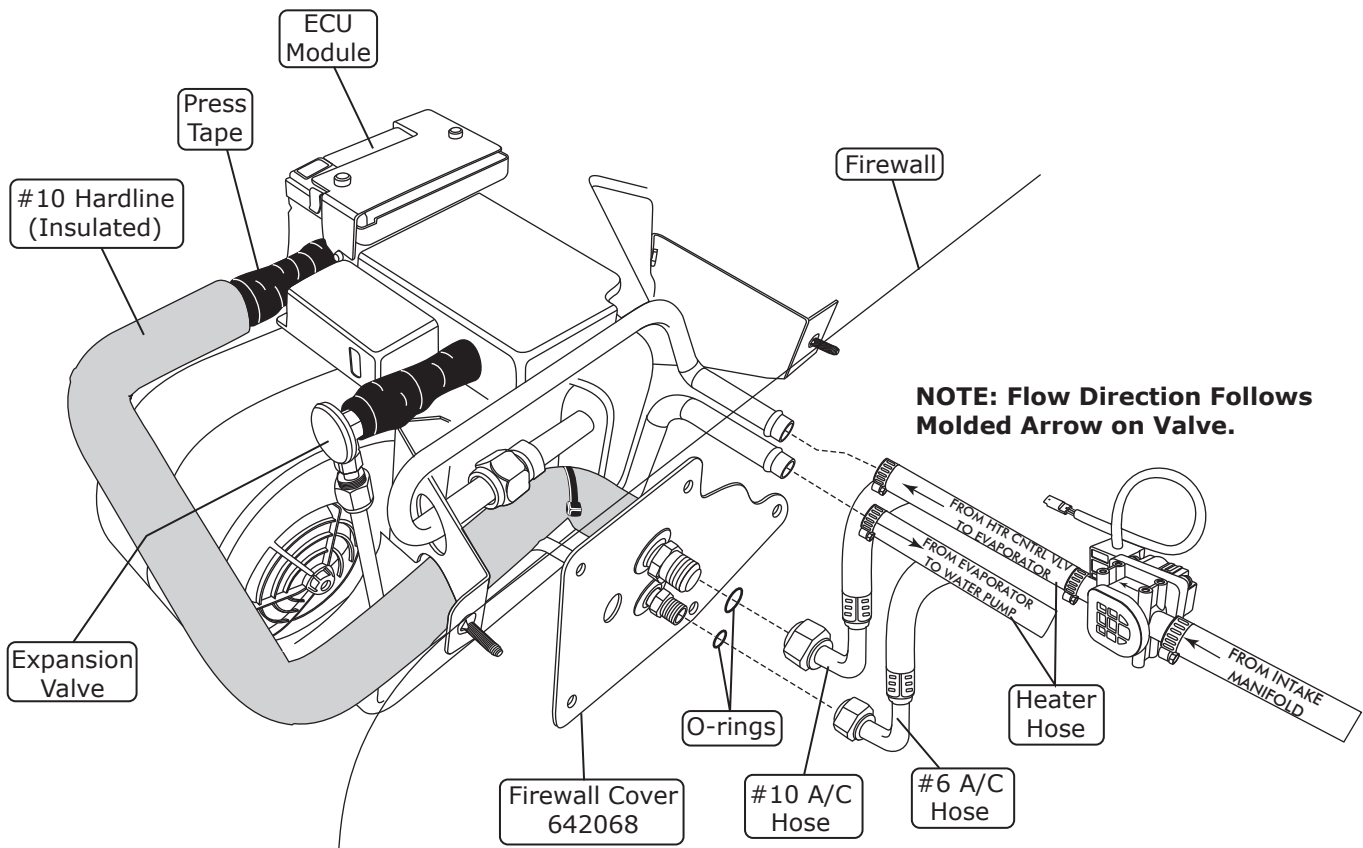
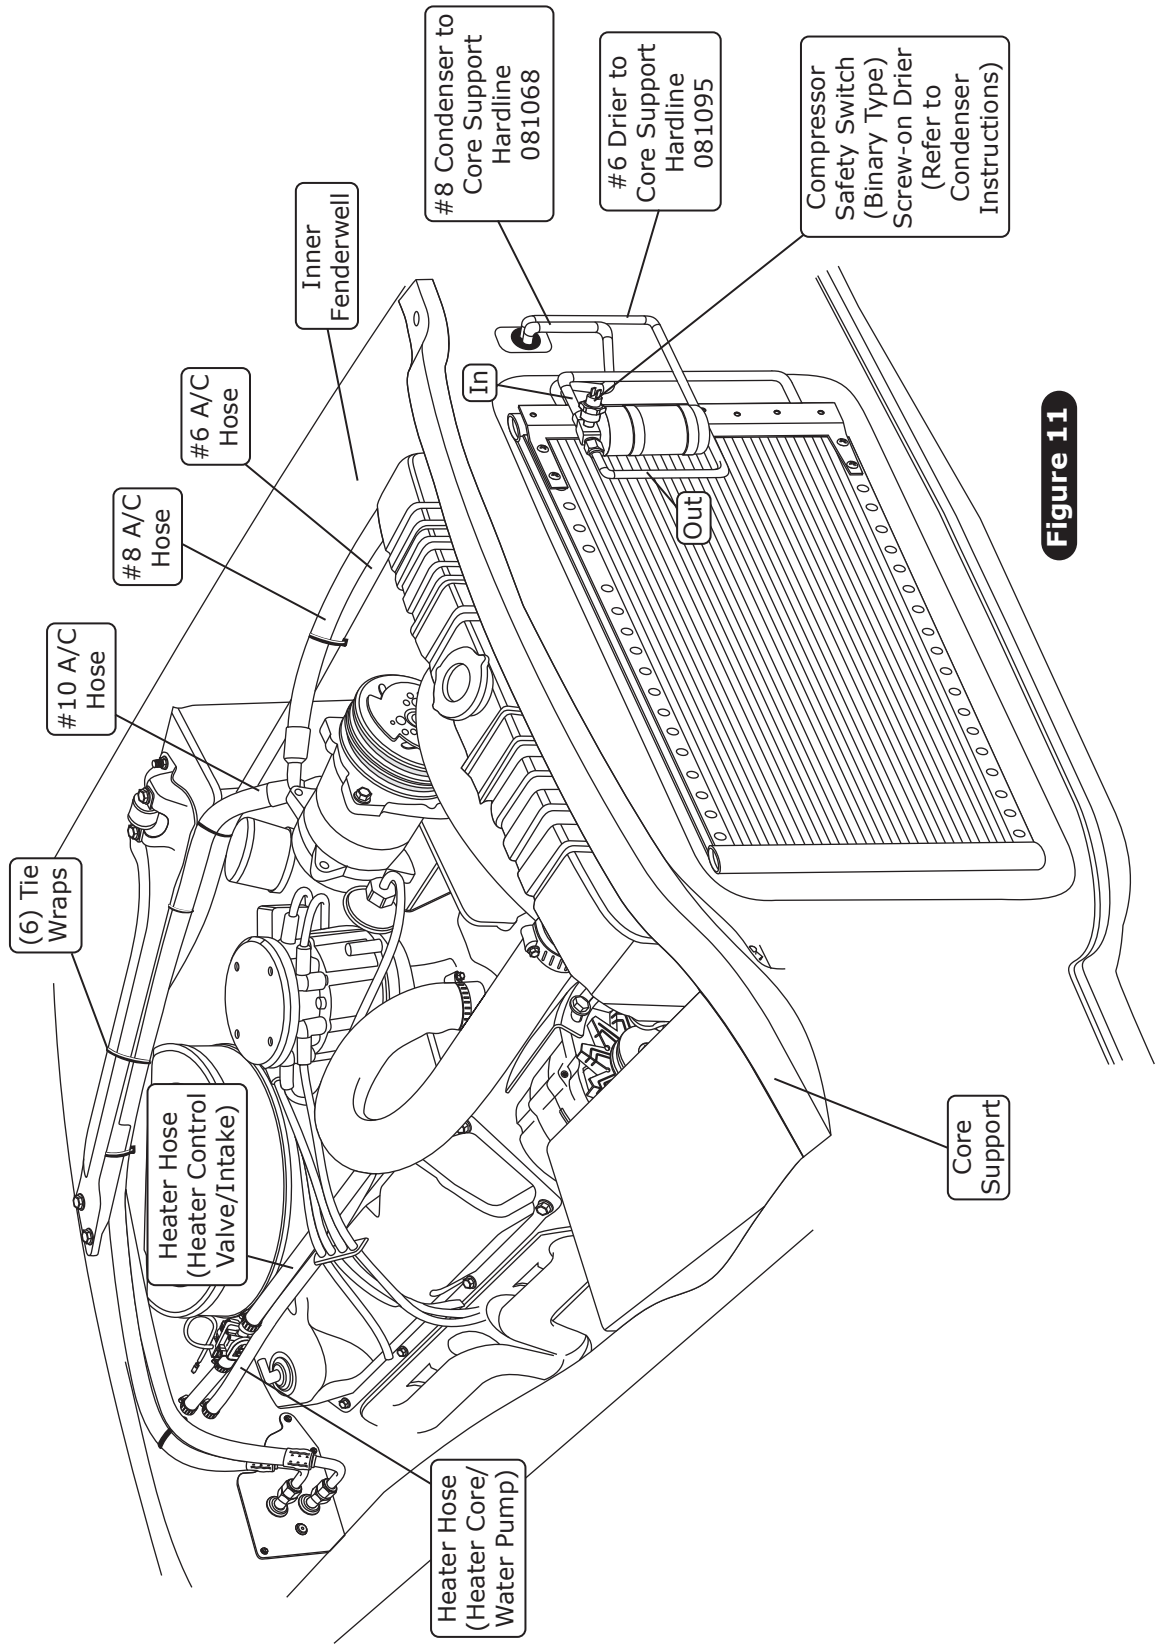

Figure 10
Figure 11
1. Locate the #8 compressor A/C hose. Lubricate (2) #8 O-rings (See Figure 9, above) and connect the 45° fitting to the #8 discharge port on the compressor. Then route the straight female fitting with service port to the #8 condenser hardline coming through the radiator core support (See Figure 11, Page 13). Tighten each fitting connection as shown in Figure 9, above.
2. Locate the #10 compressor A/C hose. Lubricate (2) #10 O-rings (See Figure 9, above) and connect the 90° female fitting with service port to the #10 suction port on the compressor. Then route the 90° female fitting to the #10 evaporator hardline coming through the firewall (See Figure 10, Page 12, & Figure 11, Page 13). Tighten each fitting connection as shown in Figure 9, above. Wrap the #10 fitting connections with press tape (See Figure 10, Page 12).
3. Locate the #6 evaporator/drier hose. Lubricate (2) #6 O-rings (See Figure 9, above) and connect the straight female fitting to the #6 drier hardline coming through the radiator core support. Then route the 90° female fitting to the #6 evaporator hardline coming through the firewall (See Figure 10, Page 12 and Figure 11, Page 13). Tighten each fitting connection as shown in Figure 9, above.
4. Use (6) tie wraps to secure the #6 A/C hose to the brace as shown in Figure 11, Page 13.
1. Route a piece of heater hose from the water pump to the lower heater line coming through the firewall as shown in Figure 10, below. Secure using hose clamps.
2. Route a piece of heater hose from the intake to the upper heater line coming through the firewall as shown in Figure 10, below. **NOTE: Install the heater control valve in line with the intake manifold (pressure side) heater hose, and secure using hose clamps. Also note proper flow direction.**